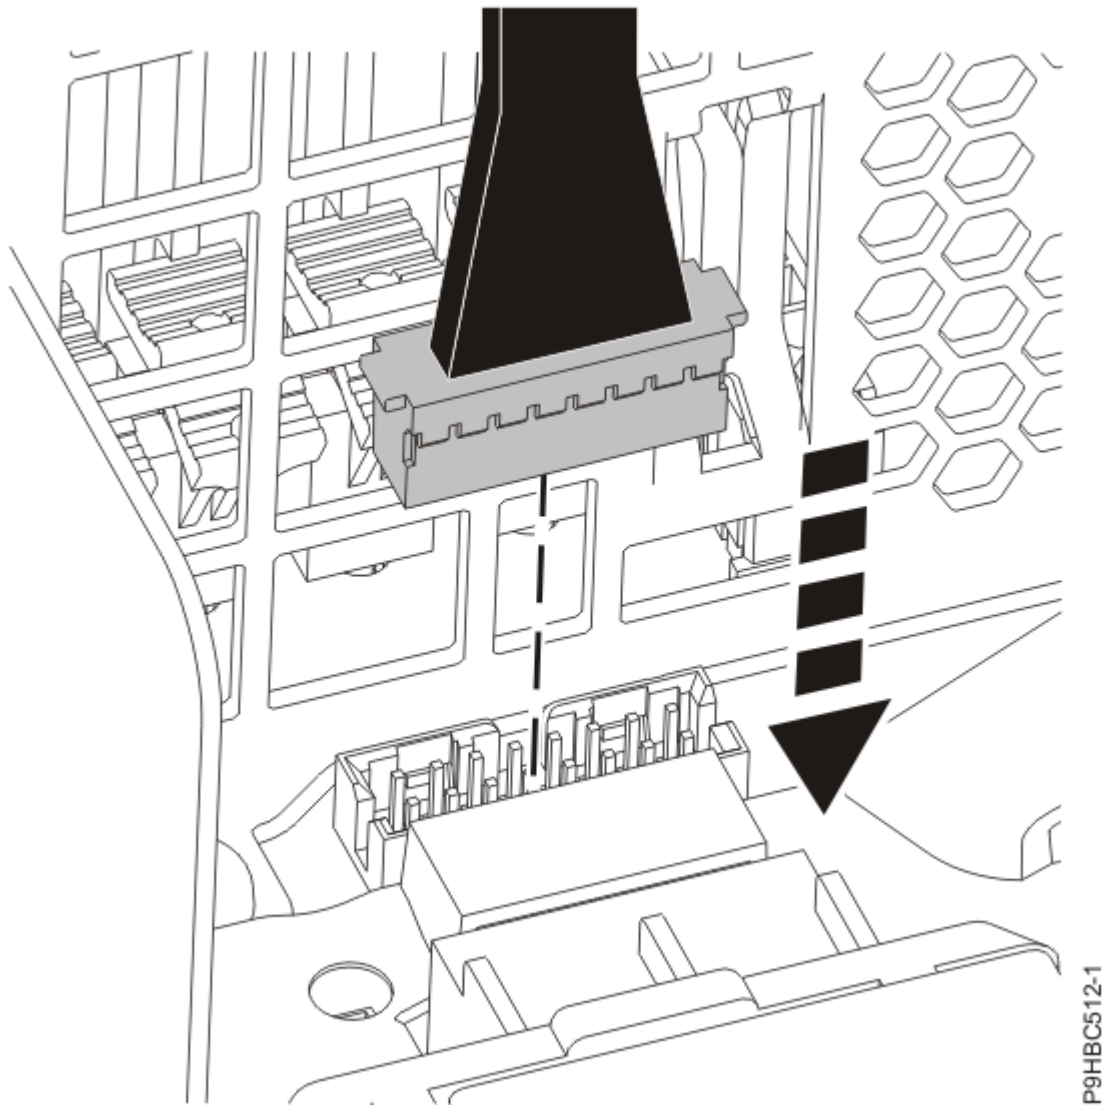

Figure 41. Connecting the control panel cable to the system backplane
6. Connect the control panel cable to the system backplane as shown in Figure 41 on page 45.